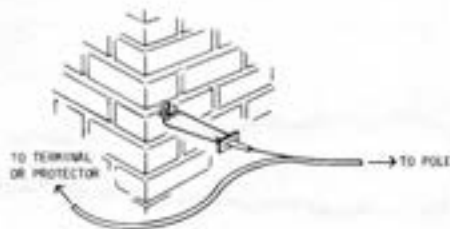

Fig. 7—Multiple Drop Wire Installed at First Building Attachment
- (4) Cut the web approximately 1 inch at the point of first attachment in the direction toward the pole. Separate the support wire from the jacketed pairs for approximately 10 inches. Crush the PVC jacket of the support wire between the handles of the diagonal pliers and remove the insulation.
- (5) Place a plastic cable tie around the jacketed pairs and support wire at the point of separation to prevent further splitting of the web.
- (6) Install a No. 5056B wirevise (Fig. 2) or a DE-2506 dead end (Fig. 3) on the bare support wire and over drop wire hook (Fig. 7).